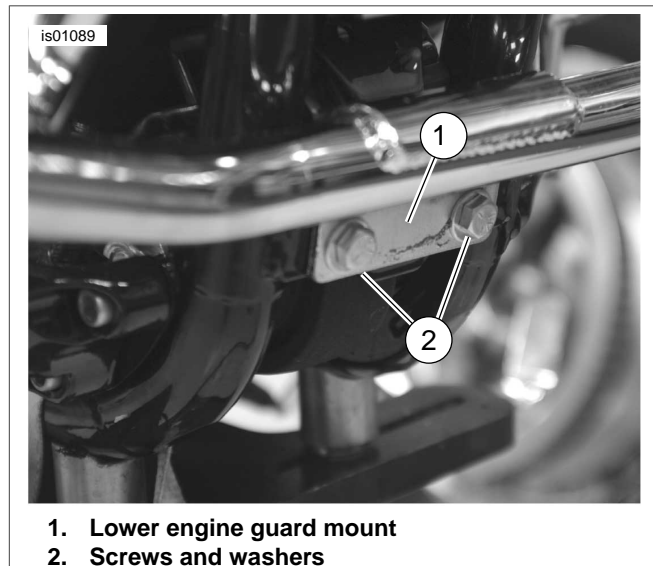

Figure 4. Mount Lower Section of Engine Guard
6. See Figure 4. Install flat washers onto screws. Install screws (2) through lower engine guard mount (1) holes and thread into lower crossmember holes. Tighten until snug only.